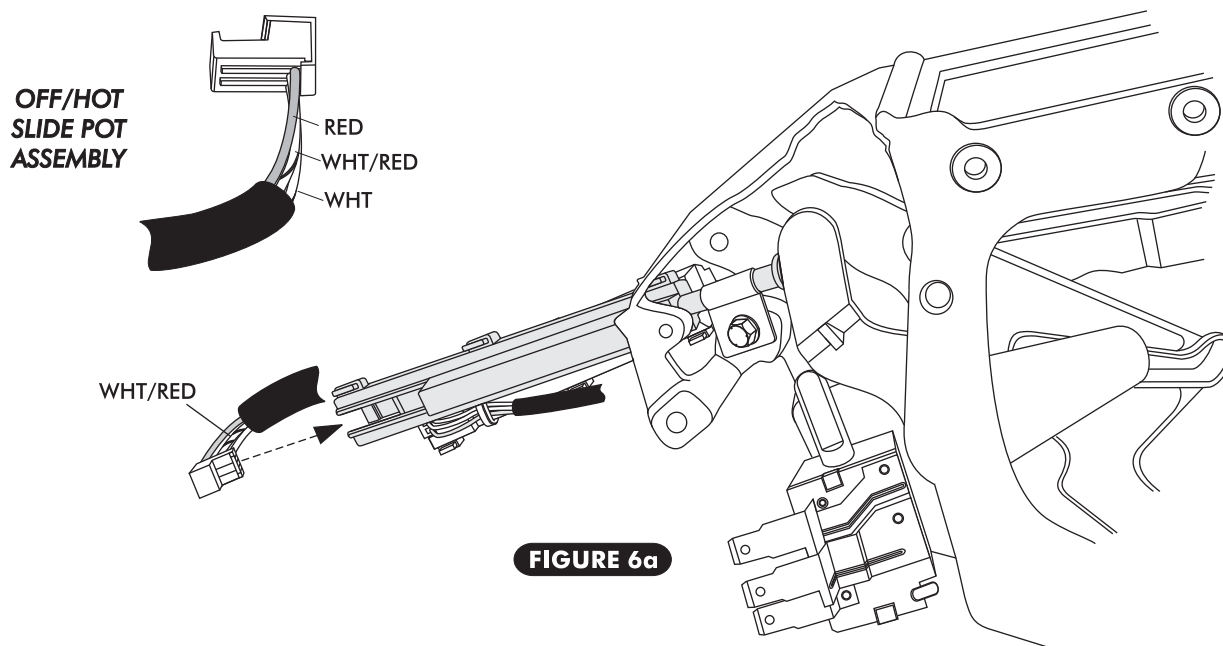

FIGURE 6a
- ☐ LOCATE THE CONTROL PANEL WIRE HARNESS, PLUG THE CORRESPONDING WIRES INTO THE CORRECT SLIDE POT ASSEMBLY AS SHOWN IN FIGURE 6a BELOW.